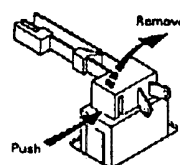

Fig.2 - 23
b. Gear(Below the flywheel)(See Fig. 2 - 24~Fig. 2 - 26)